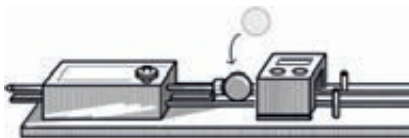

Fig.7
2. Place the ball in front of the launcher rod head (see Fig.7).